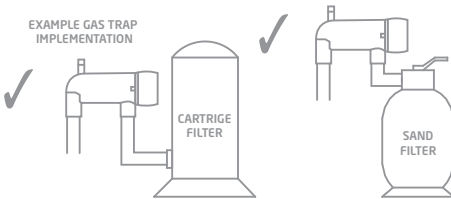

Fig. 4
- Shown in Fig. 4 are the correct ways to implement gas traps across sand and cartridge filters.